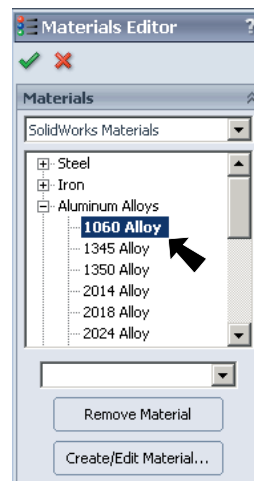

Fig. 25
Step 2. Expand Aluminum Alloys, select **1060 Alloy**, **Fig 25** and click OK .